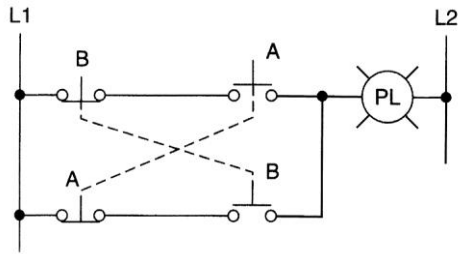

Figure 6-34 Hardwired circuit for assignment 10.
10) The hardwired pushbutton interlock circuit of Figure 6-34 can be programmed using a PLC. The output is energized if button A or button B is pressed but not if both are pressed. Prepare an I/O connection diagram and ladder logic program for the circuit. Enter the program into the PLC, and prove its operation.